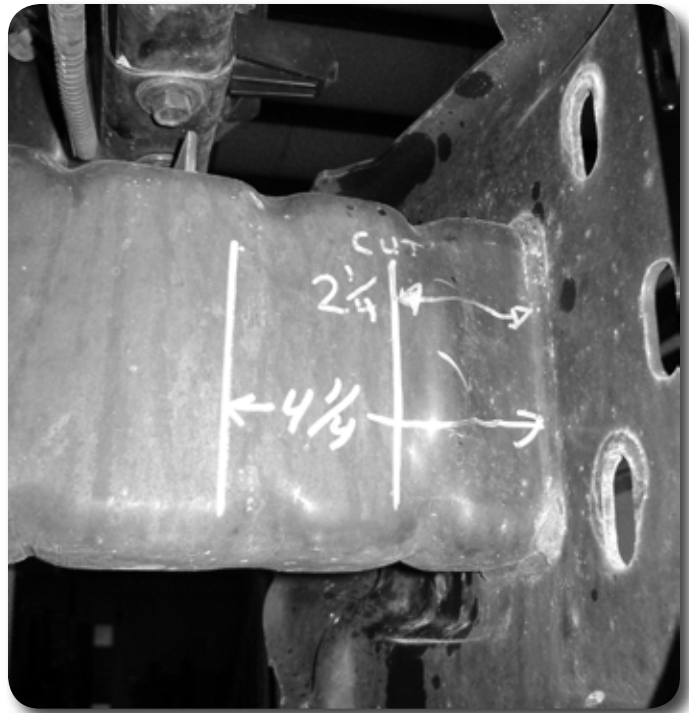

Figure 5
19. Carefully measure again from the back surface of the factory bumper mounts on the vertical faces of the frame rail $4\frac{1}{4}$ " and mark. Do this in multiple locations and connect the points to form two reference lines on the vertical frame rail surfaces **Figure 5**. These lines will aid in positioning the new provided bumper brackets.